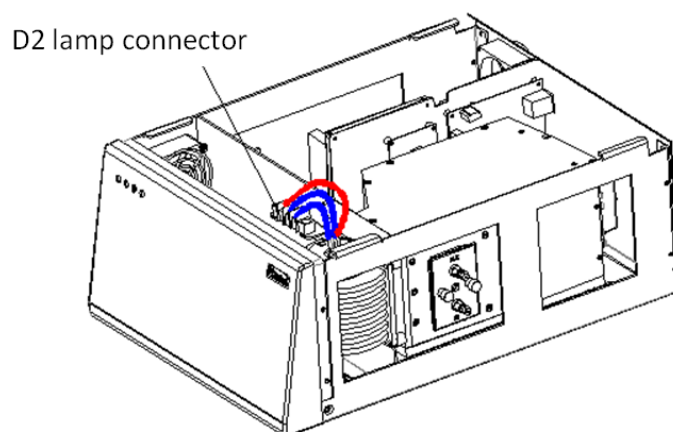

Figure 5-2 Take off the deuterium lamp
- 2) Unscrew the 3 lamp connecting terminals, as shown in Figure 5-2.